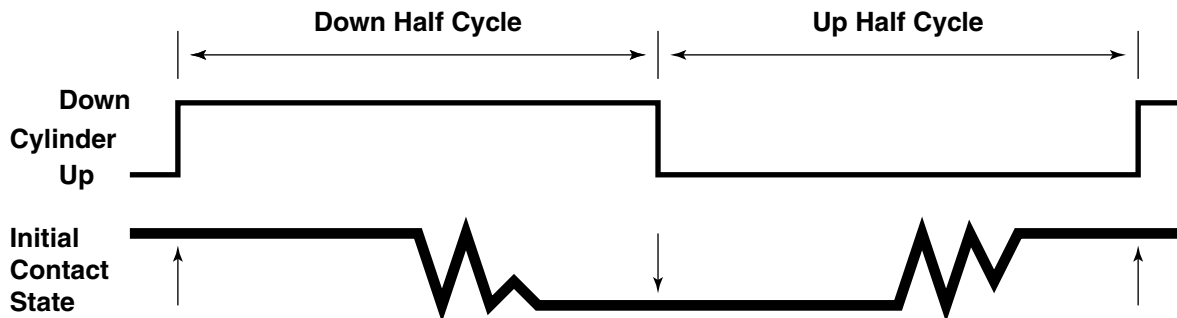

Figure 5.
When any single contact measurement is made, the value is checked against the minimum and maximum contact resistance tolerances. If the value falls outside this range, the contact measurement is considered to have failed. Similarly, the bounce is checked to be sure it is less than or equal to the maximum bounce time tolerance. Exceeding this tolerance value is also a failure. There are a total of 4 possible failures for each test half cycle. The 3 specified above and the initial state of the contact (Figure 5). The initial contact state is a go / no-go test to be sure the switch contacts are in the proper state before the air cylinder even begins to actuate. For example, with a normally-open switch (NO), the contact is expected to be “open” before the air cylinder presses down on the switch. This test is performed with the same thresholds that the bounce test uses (to be described shortly). There are up to 4 failures possible on the down stroke of the air cylinder, and another 4 on the up stroke. All operations of the LCTS are symmetrical between the up and down stroke half cycles.